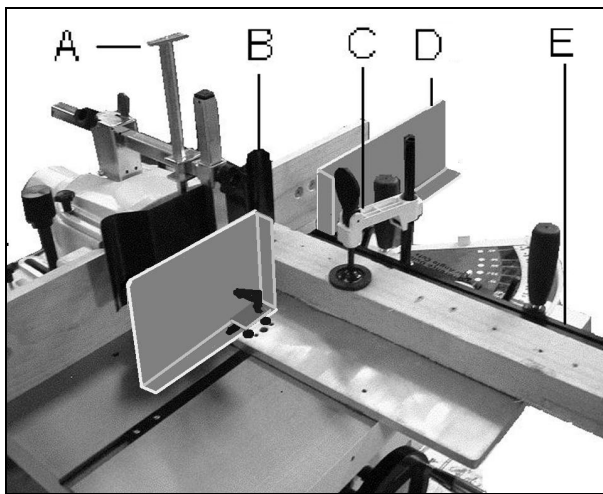

Fig 25
The wood press (C, Fig 25) and the mitre gauge profile (E) assure the stability of the workpiece.